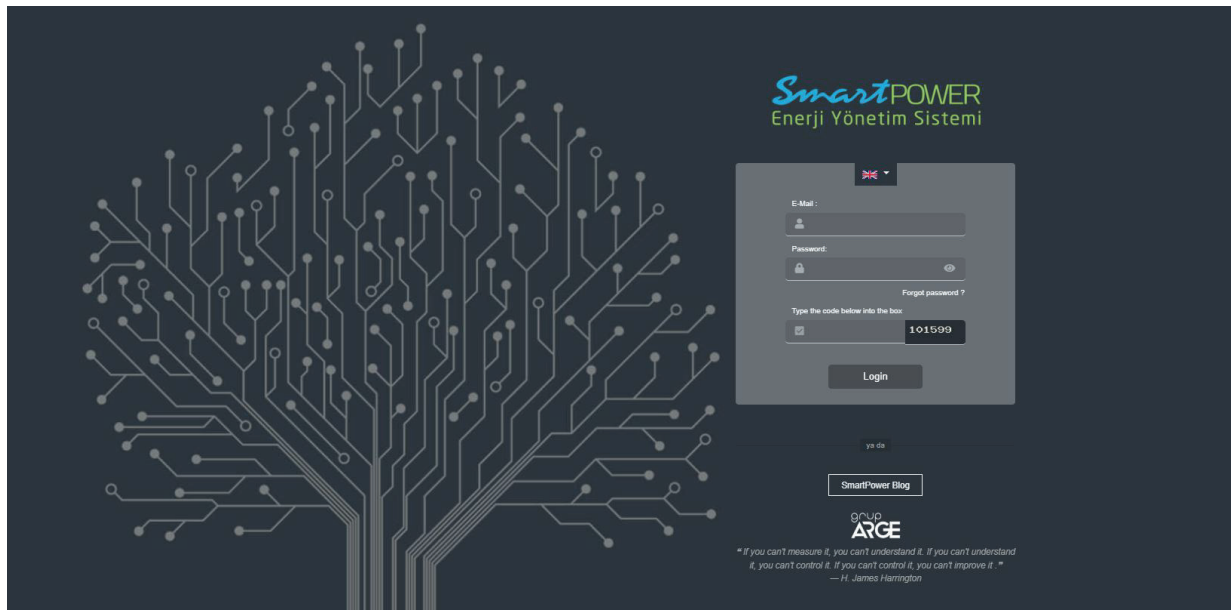

Figure 5.1
1. Go to www.enerjitakibi.com. The login screen shown in Figure 5.1 will appear.